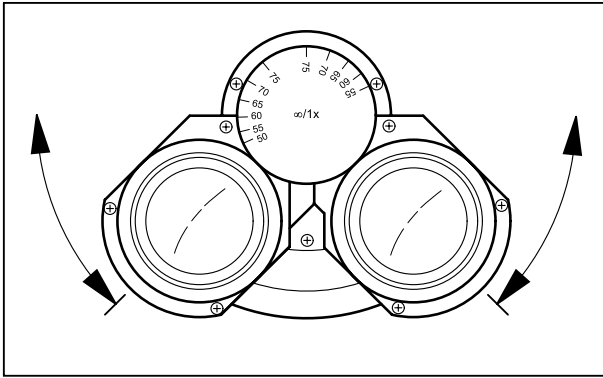

Fig. 12 Adjusting the interpupillary distance
- Rotate the eyepiece tubes symmetrically toward or away from one another to adjust the distance between the tubes to your individual interpupillary distance (Fig. 12).